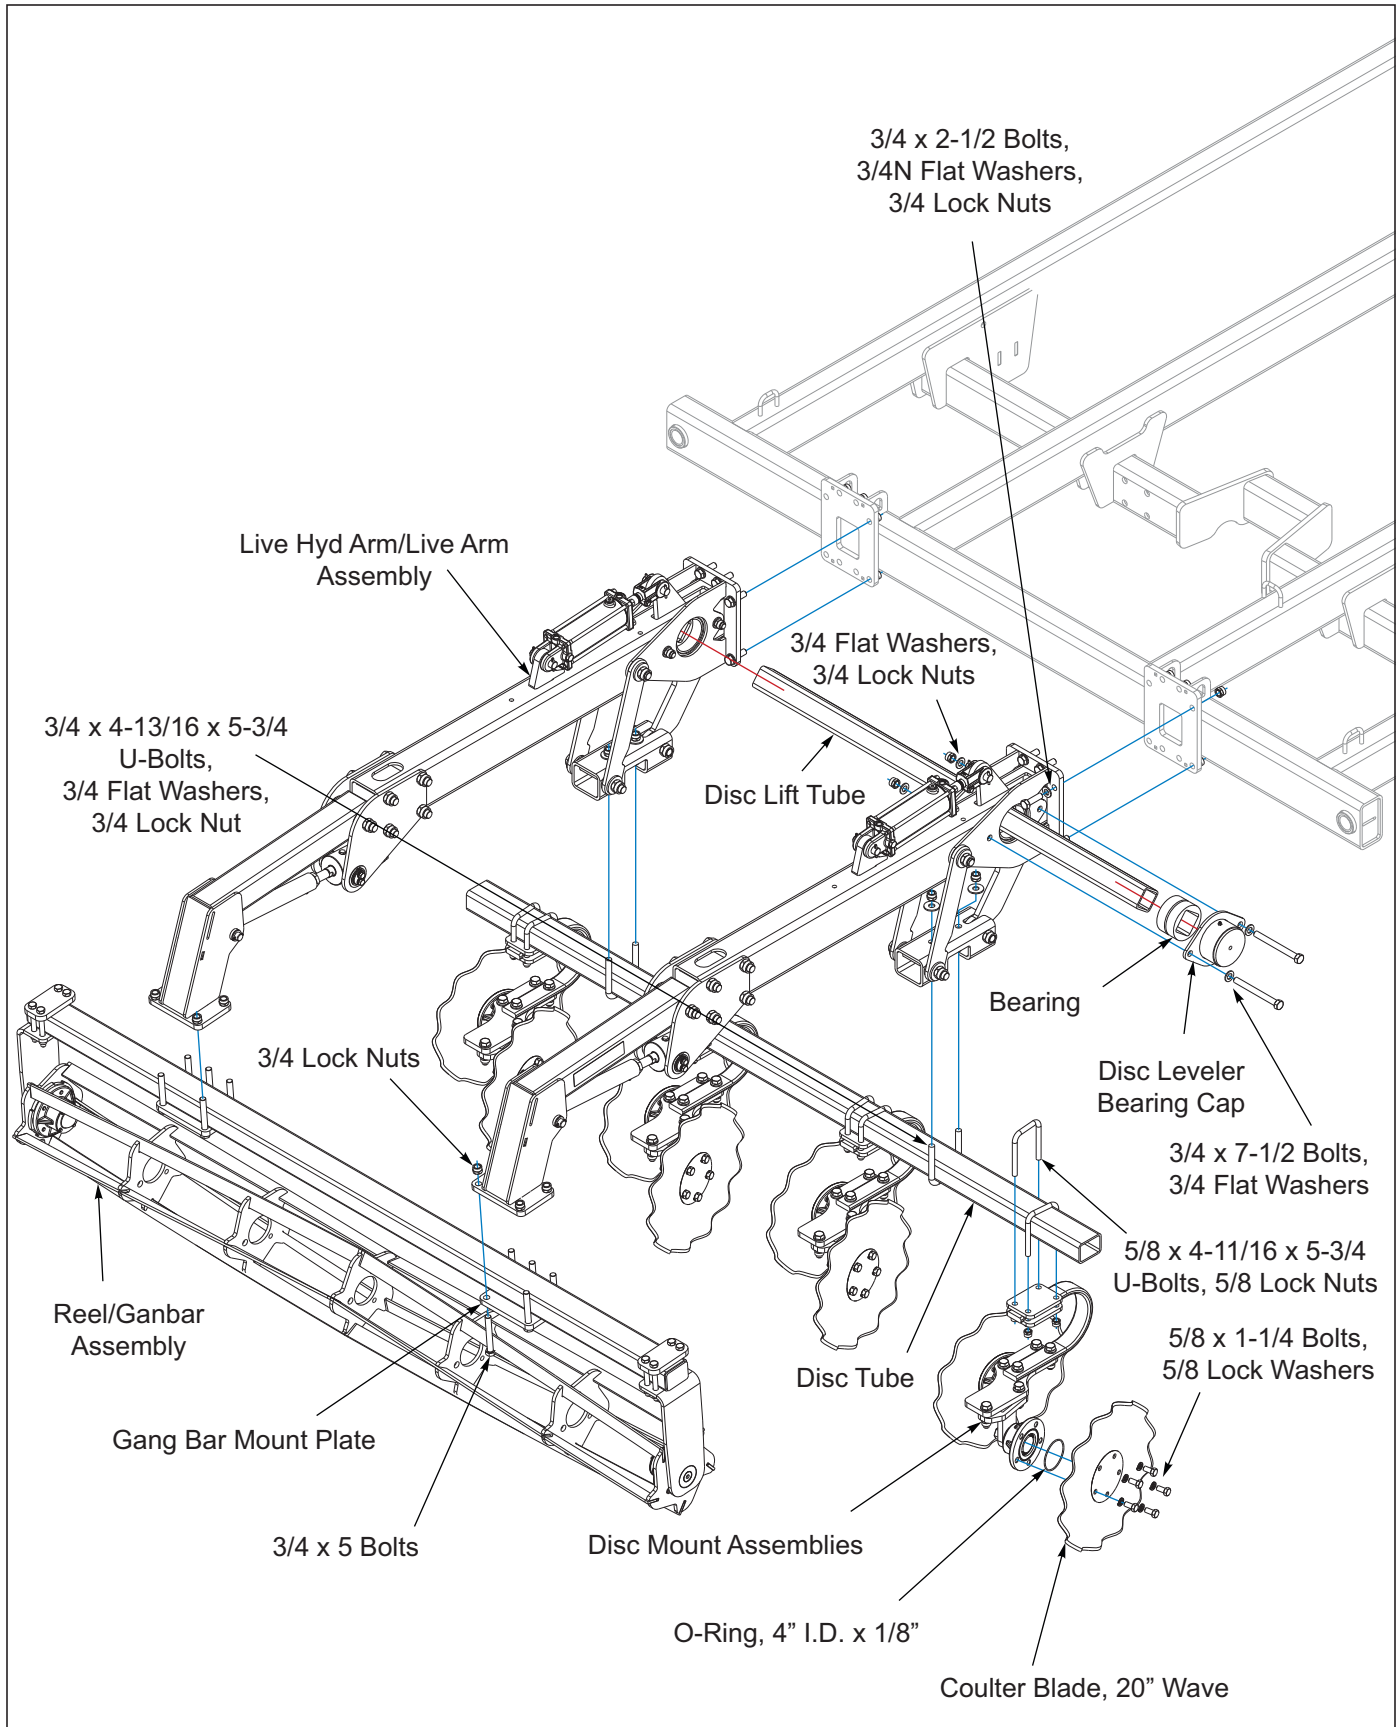

Figure 3-44: Disc Lev/Hyd Installation
1. Starting at the rear of the center frame, attach the LT live arm assembly to left and right side using 3/4 x 2-1/2 bolts, 3/4N flat washers and 3/4 lock nuts. See Figure 3-44 and See Figure 2-56 through See Figure 2-63 for arm placement.
15. Install fittings to pressure reducing valve and manifolds as shown See Figure 3-44.